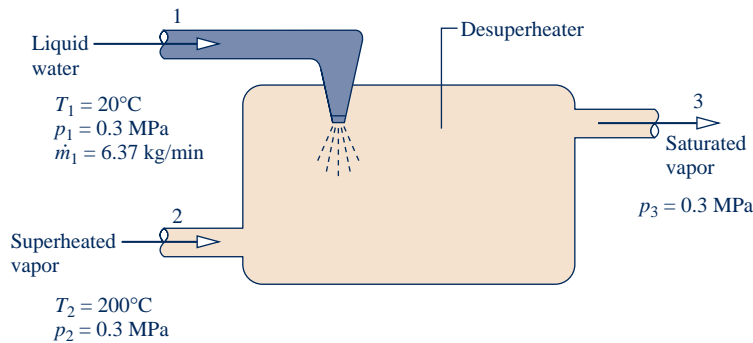

Fig. P6.92
6.92 By injecting liquid water into superheated vapor, the *desuperheater* shown in Fig. P6.92 has a saturated vapor stream at its exit. Steady-state operating data are shown on the figure. Ignoring stray heat transfer and kinetic and potential energy effects, determine (a) the mass flow rate of the superheated vapor stream, in kg/min, and (b) the rate of entropy production within the desuperheater, in kW/K.